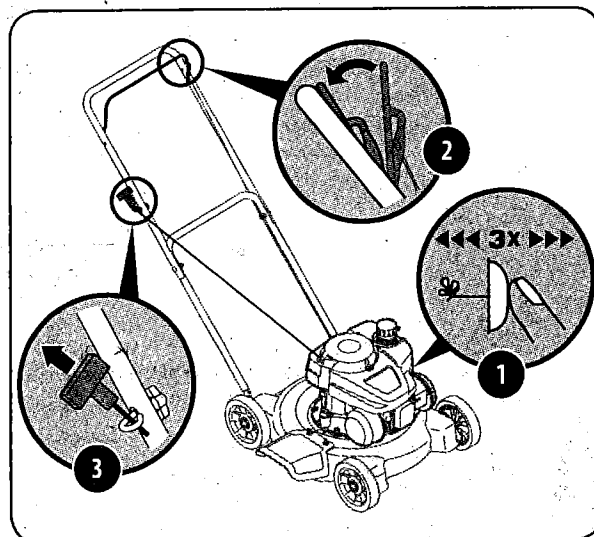

Figure 5-2
1. Push primer 3 times. Wait about two seconds between each push. See Figure 5-2. In temperature below 50°F, prime 5 times. After the engine is warmed up, one prime may be needed for all temperatures.
3. Pull the recoil starter lightly until resistance is felt, then pull rapidly to overcome compression, prevent kickback, and start the engine. Repeat if necessary. See Figure 5-2.